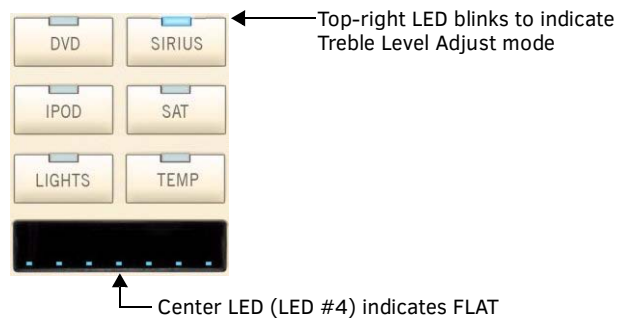

FIG. 47 Treble Level Adjust Mode
- The **top-right** LED will blink to indicate that Treble Adjustment mode is active (FIG. 47).